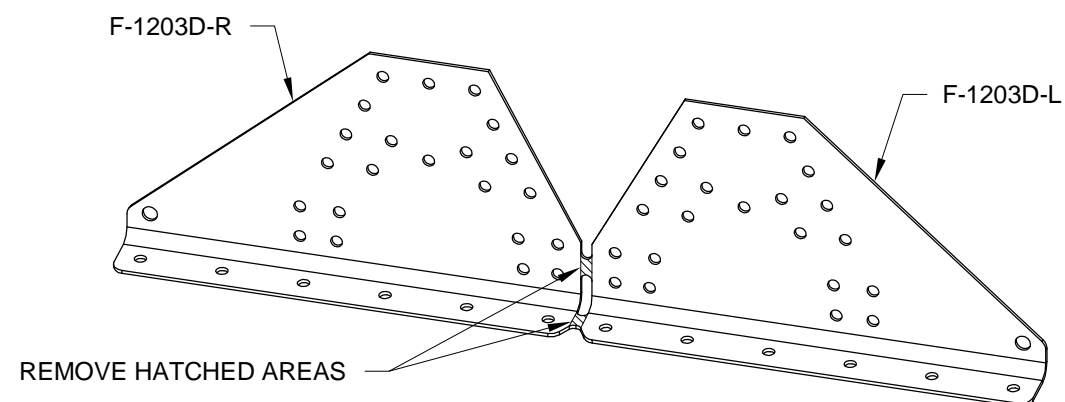

FIGURE 2: SEPARATING F-1203D
Step 2: Separate F-1203D by removing the hatched areas shown in Figure 2.